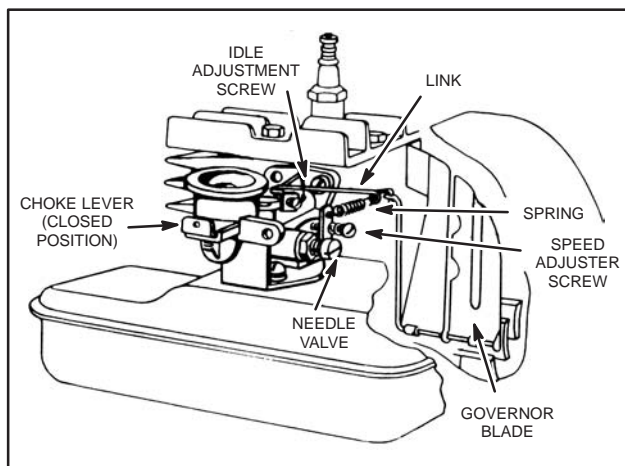

Fig. 127 – MODEL 5S, 6S, 6HS
The fuel tank is supported by the carburetor, held in place with two (2) screws, Fig. 127.
The carburetor throttle can be removed by loosening the idle speed adjusting screw. This permits the throttle to be turned far enough to clear the retaining lug on the carburetor body, Fig. 127.